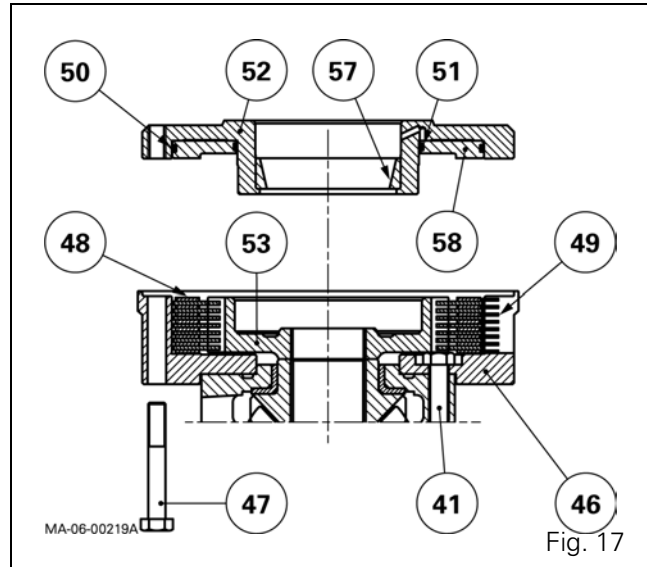

Fig. 17
Disassembly (Fig. 17)
- 97.** Fit the unit (46) on the half-unit (23). Lightly smear the thread of the screws (41) with Loctite 270 or equivalent. Tighten to a torque of 85-130 Nm.
- 98.** Fit the hub (53). Insert the intermediate plates (48) and the friction discs (49) on the hub (53), starting with a disc, then an intermediate plate, and so on as per Fig. 17.
- 99.** Position the cover plate (52) fitted with the piston (58). Fit and tighten the screws (47) to 90-120 Nm after lightly smearing their threads with Loctite 270 or equivalent.